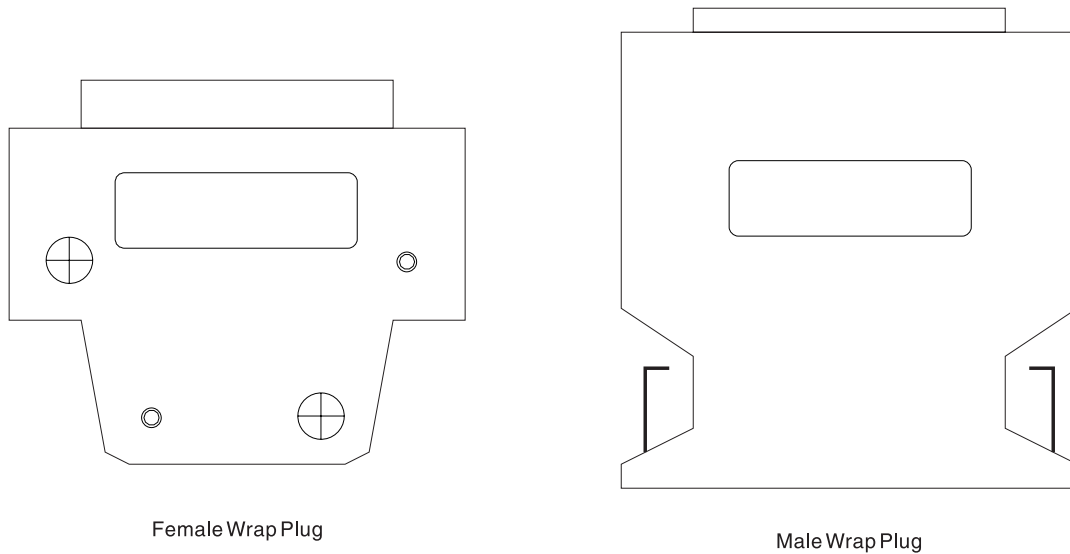

Figure 1-2. SP Switch2 Wrap Plugs
- Refer to Figure 1-2 on page 1-5